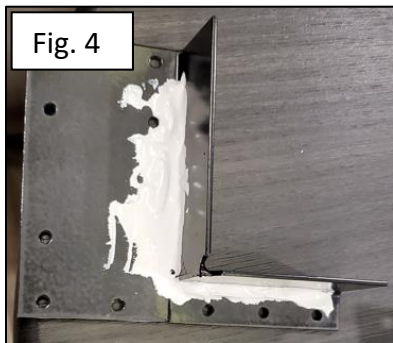

Fig. 4
4. Apply sealant to the back side of the right-hand corner bracket. (Figure 4)